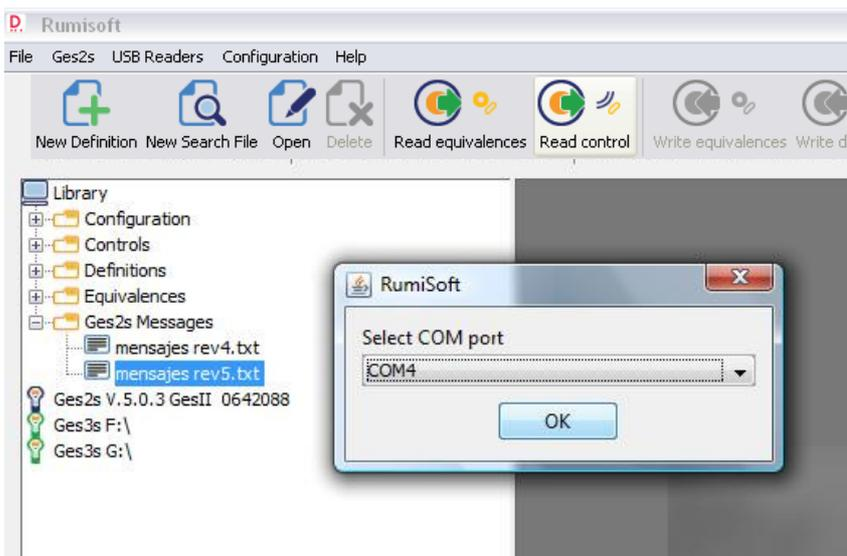

Figure 17
*Com:* shows all available com ports in the PC to select the com port used to upload to and download from the GES2S (Figure 17).